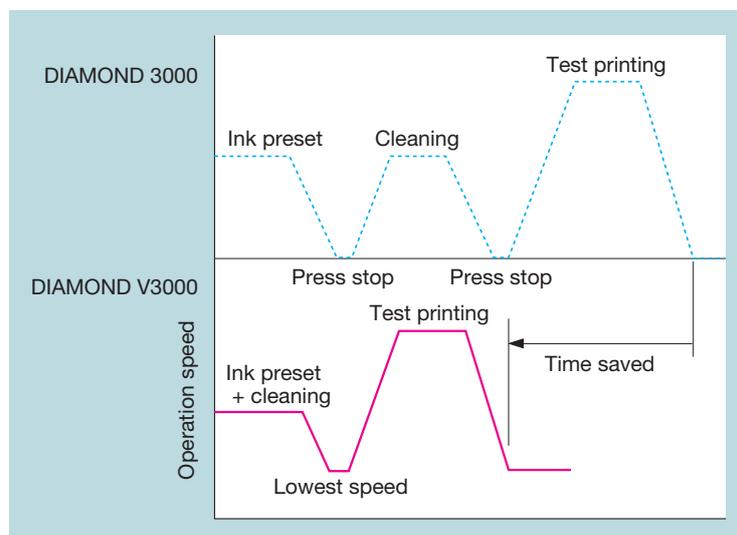

Fig. 7 Effect of control review
- performing the ink key preset and blanket cleaning simultaneously (see Fig. 7).